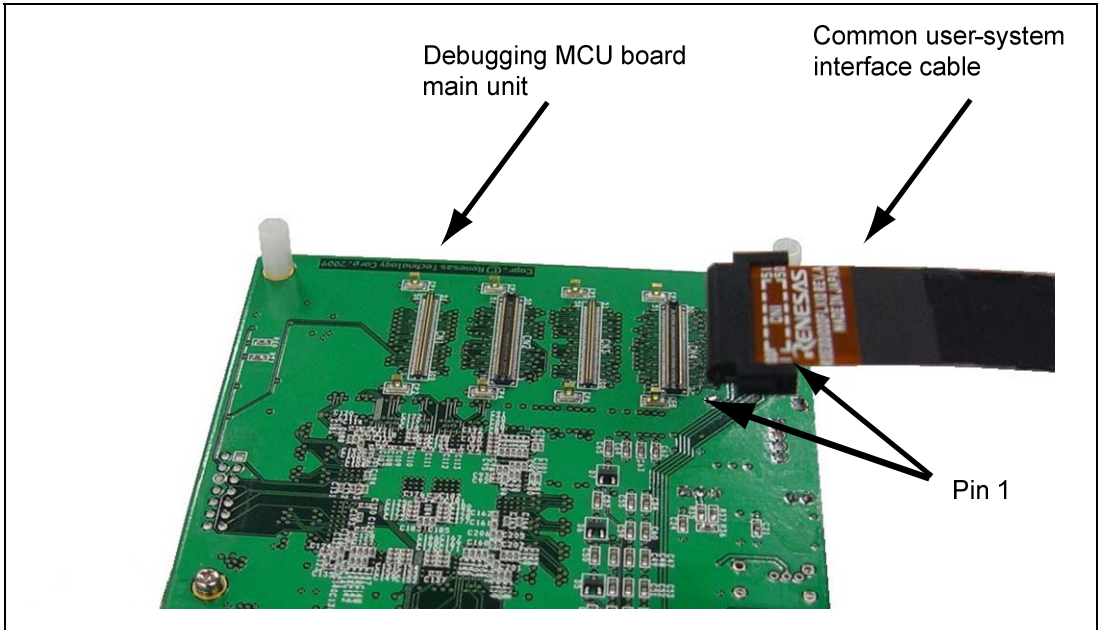

Figure 2.5 Connecting the Debug MCU Board Main Unit and the Common User-System Interface Cable
2. Confirm the location of pin CN4-1 on the debug MCU main unit before plugging the common user-system interface cable into the main MCU unit, as shown in figure 2.5. In the listed order, plug the four pins indicated by the following silk-screened labels on the debug MCU board, into the main unit: CN4, CN3, CN2, and CN1.